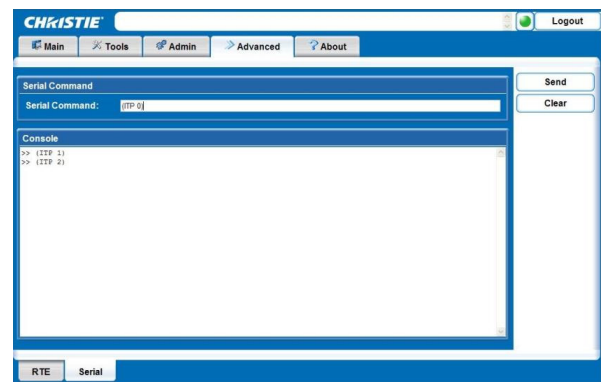

Figure B-20 Add Serial Command
2. Click **Send** to add the serial command. See Figure B-20 Add Serial Command.